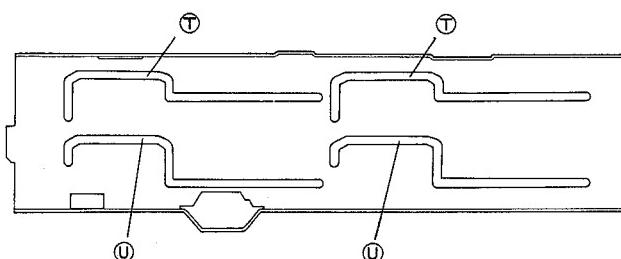

Fig. 10-6.
The racks change the linear movement in the right and left directions into the complex movement of the trays by grooves ⑤, ⑥, ⑦, and ⑧ on the reverse side and grooves ⑨ and ⑩ in loading base, as shown in Fig. 10-6. Grooves ⑪, ⑫, ⑬, and ⑭ on the front side control the SW board ass'y switches (U, S, and L).